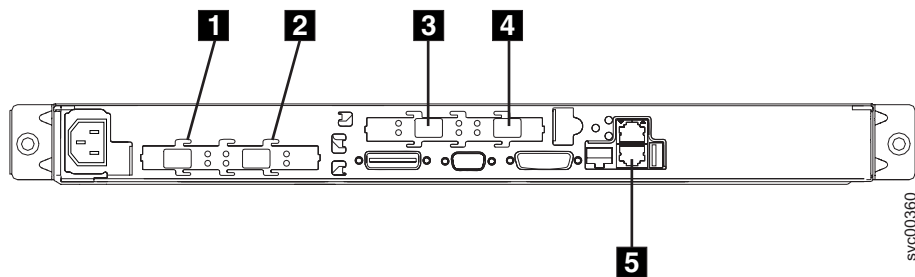

Figure 99. Connectors at the back of the SAN Volume Controller 2145-4F2
- Connect the Ethernet cable to Ethernet port 1 **5** in Figure 99.